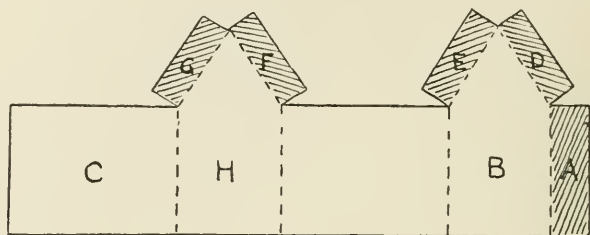
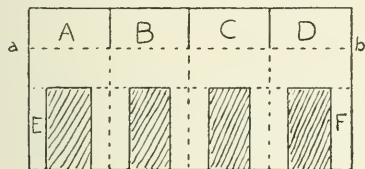
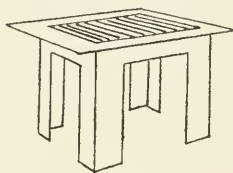

FIG. 1
FIG. 21
FIG. 22
Methods of joining Cardboard and Paper Edges. (1) Leaving a flange. In Fig. 1 the shaded portions represent flanges—flange A is for joining side of house B to C, flanges D, E, F, G
If Fig. 1 is made of cardboard, flange A must have the surface
top of table. Fold and cut the double square as in Fig. 21. Bend flaps A B C D carefully along *a b*. Gum A to B, C to B, D to A to form legs. Gum square top on to A B C D. A square of coloured paper can be gummed on to top of table as in drawing (Fig. 22). Leg E can be gummed to F by means of a paper hinge, or a flange may be provided, as in Fig. 1.